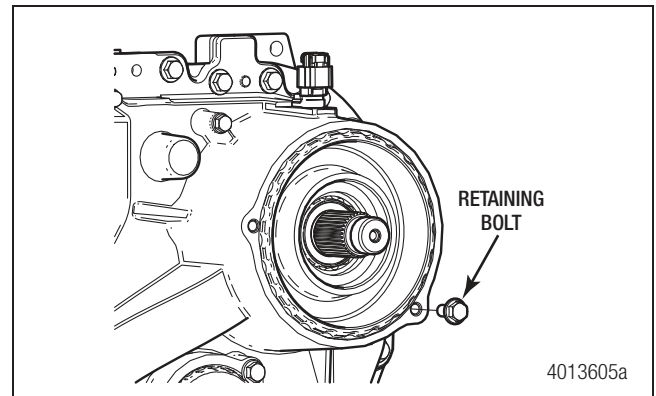

Figure 4.3
4. Remove the adjusting ring retaining bolt from the bearing cage opening. Figure 4.3.